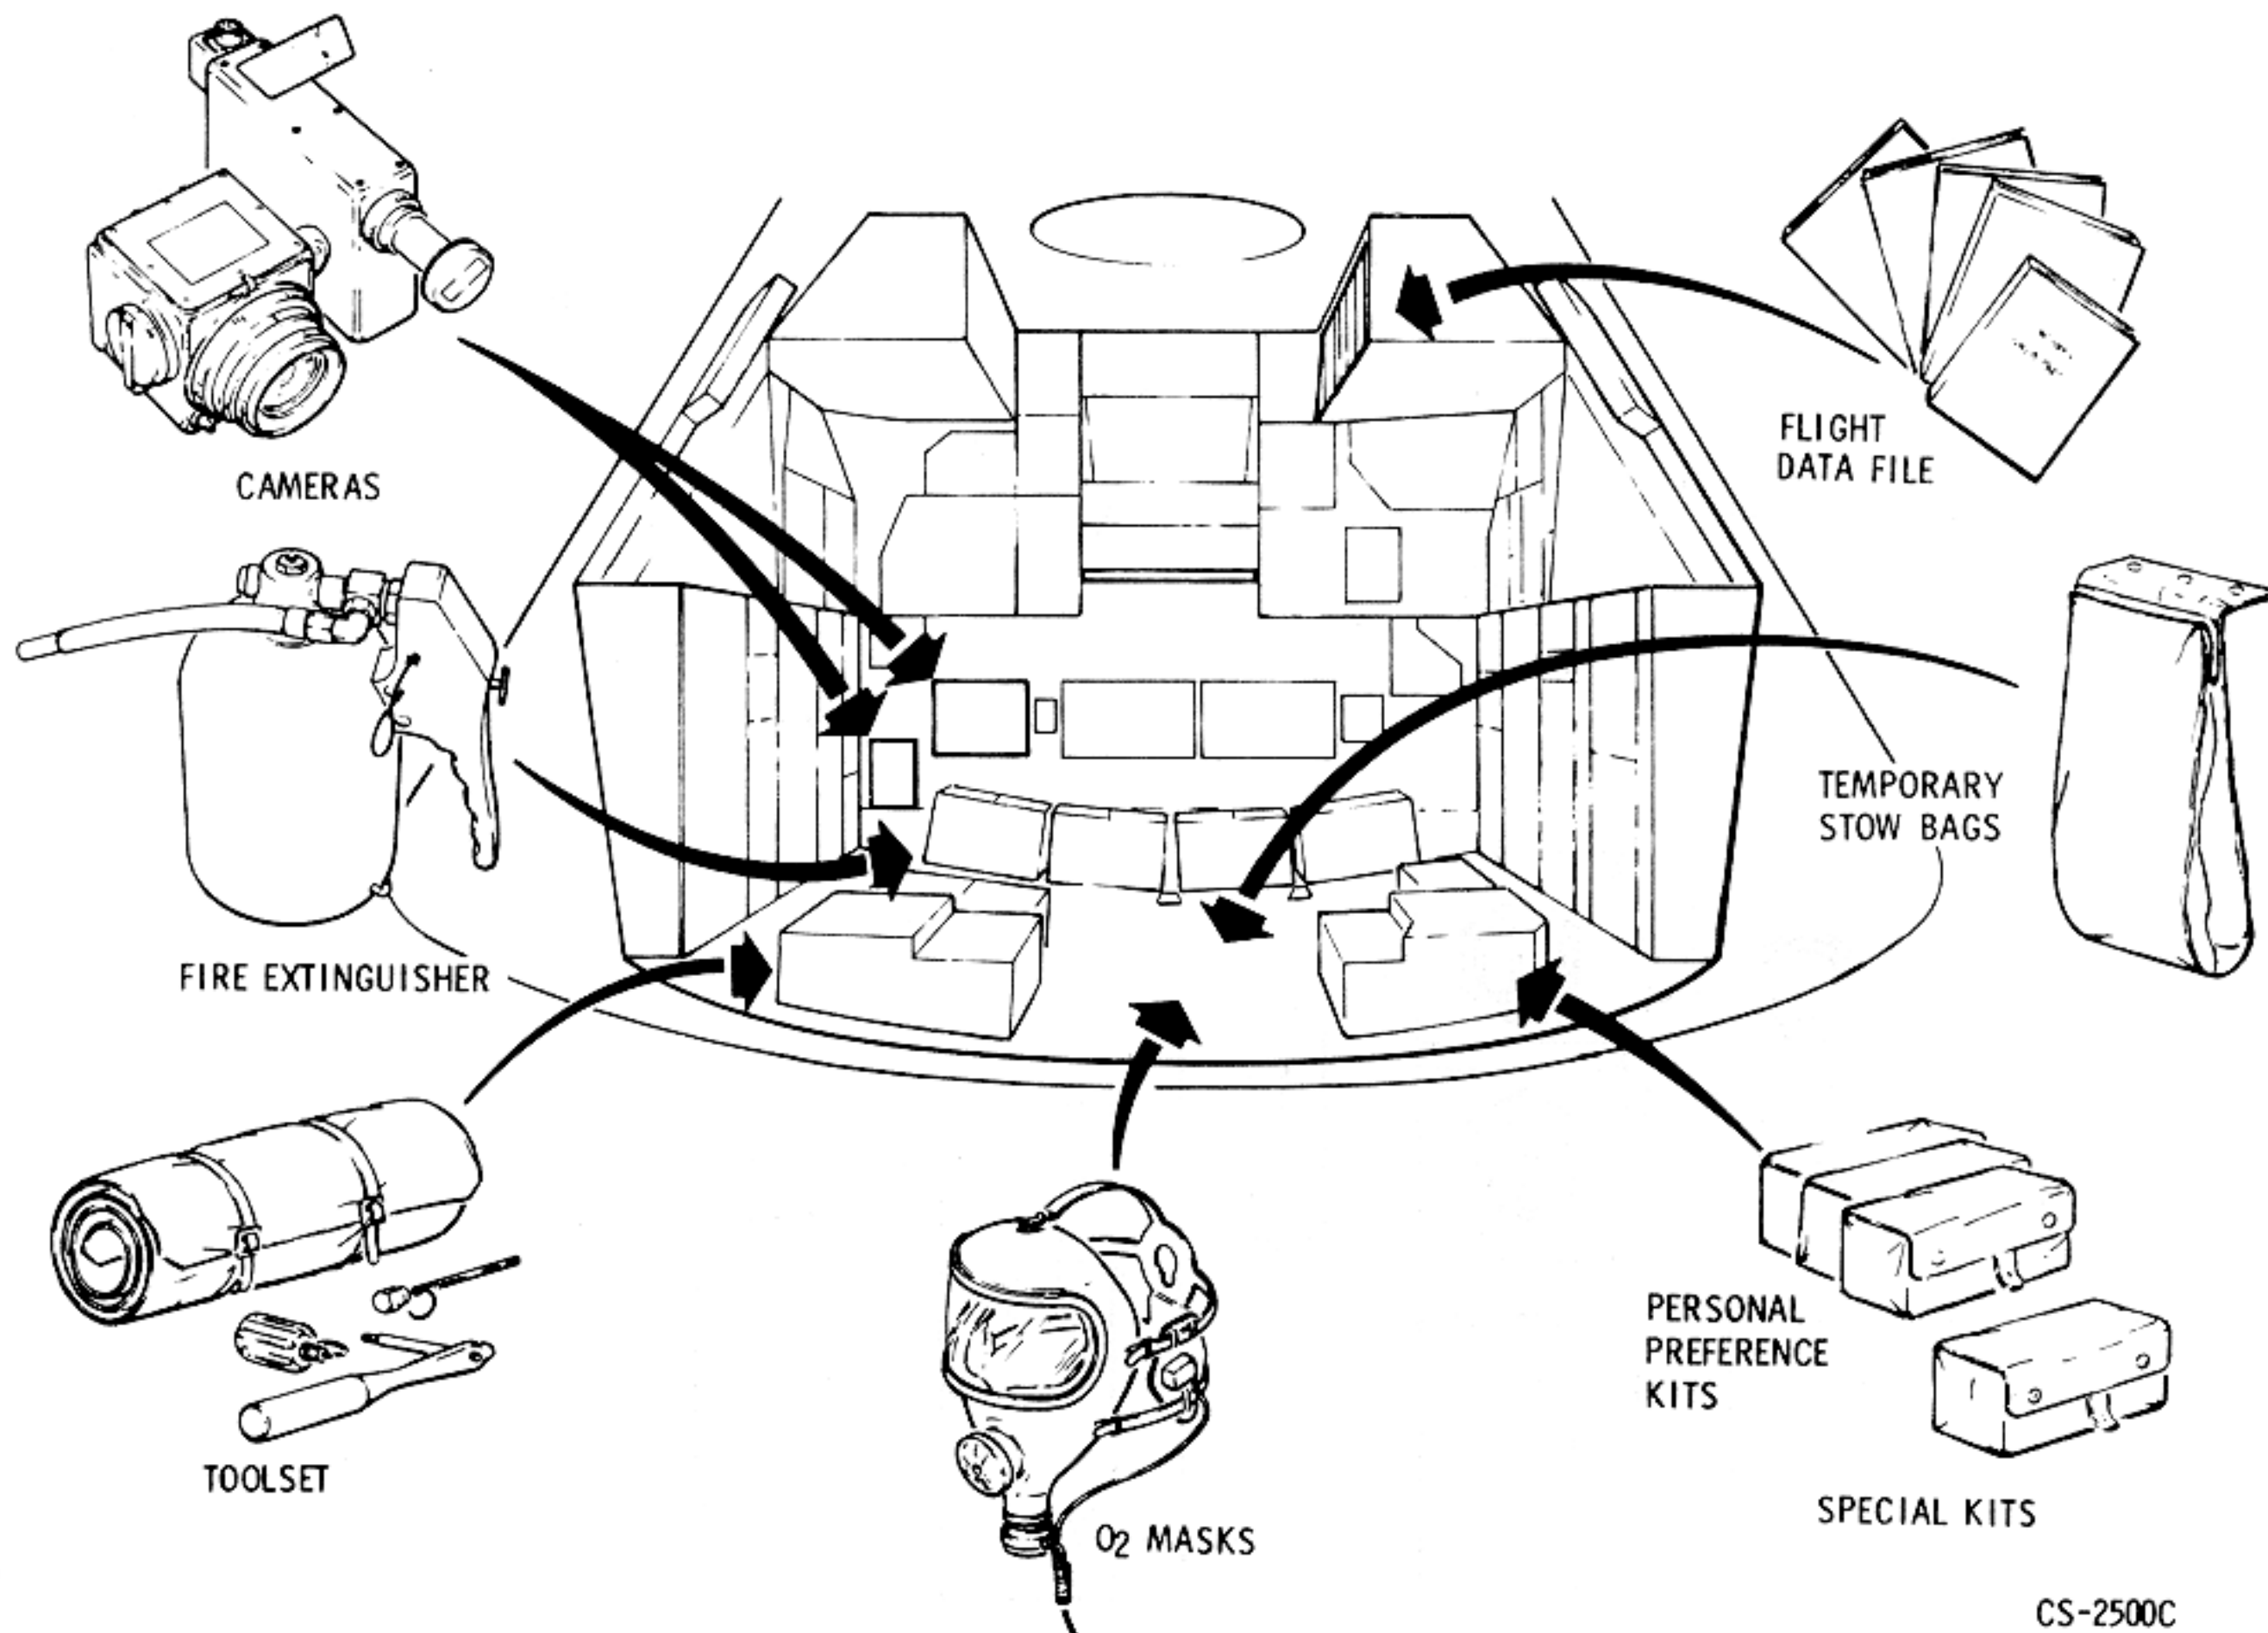

Figure 2.12-30. Mission Operational Aids
2.12.5 MISSION OPERATIONAL AIDS (Figure 2.12-30).